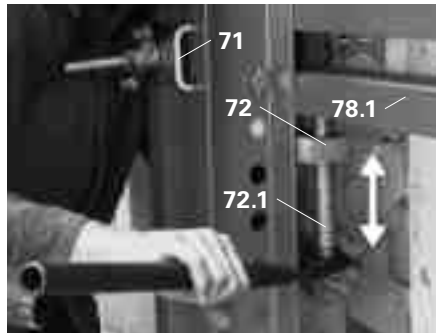

Fig. B3.06
1. If necessary, release the top Height Adjusting Unit CB, SCS (72) and adjust to achieve the required clearance.
2. Apply Ratchet Lever SW 19 (82) to adjusting spindle (72.1) of the Height Adjusting Unit CB, SCS (72) on the Strongback. Depending on the rotational direction, the formwork moves upwards or downwards.
3. If necessary, turn top Height Adjusting Unit CB, SCS (72) back to stop. (Fig. B3.06 + B3.07)